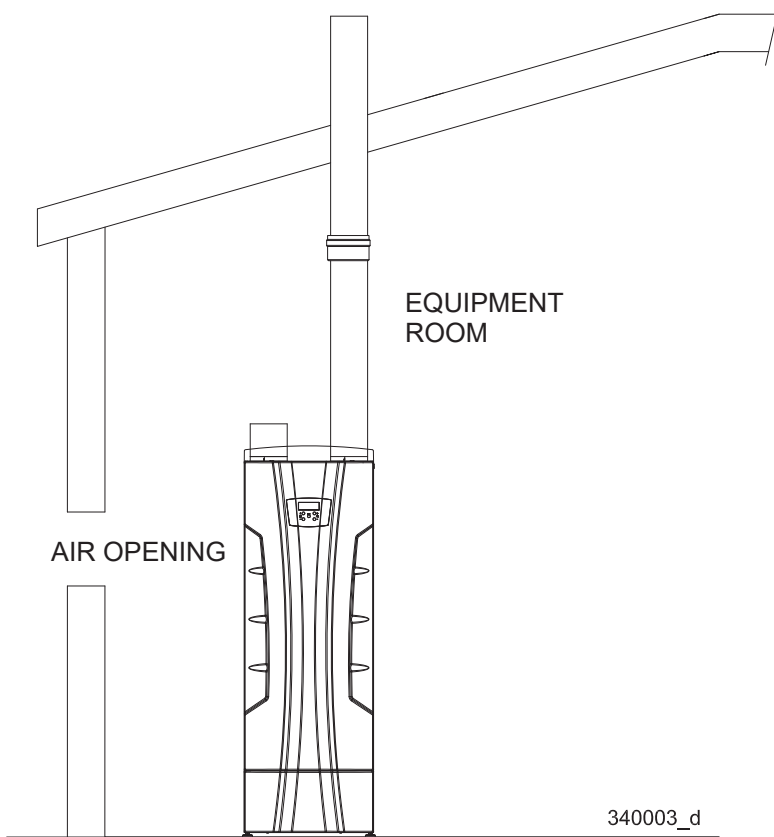

Figure 5-3 Combustion Air from outside - single opening
- 3.- If a single combustion air opening is provided to bring combustion air in directly from the outdoors, the opening must be sized based on a minimum free area of one square inch per 3000 Btu/hr (7 cm² per kW). This opening must be located within 12" (30cm) of the top of the enclosure (see Fig.5-3).